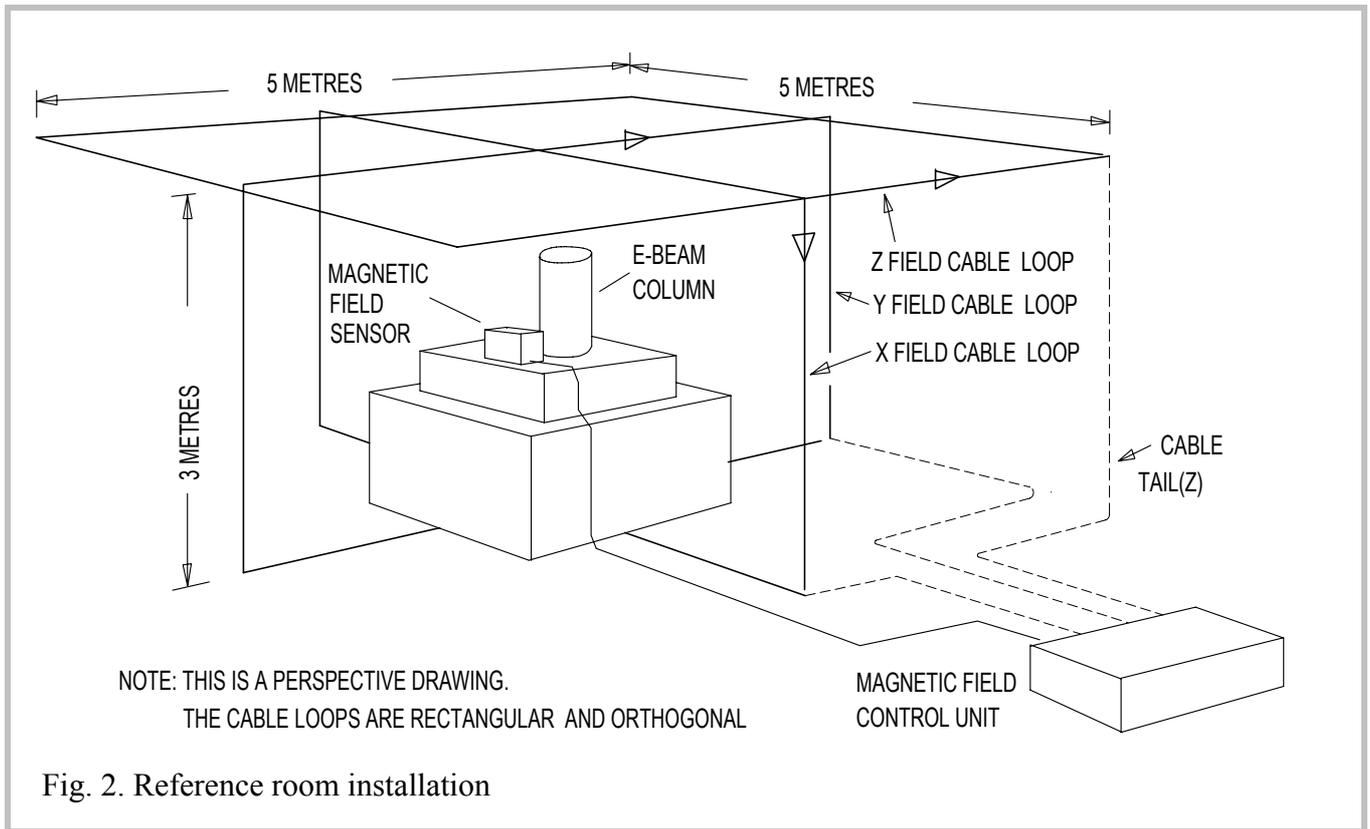

Fig. 2. Reference room installation
To specify the SC20 performance more rigorously, we use a reference cable installation geometry. This is shown in Fig. 2. The electron beam column is centred in the 3m x 5m X and Y loops (which cross over above and below the column) and the 5m x 5m Z loop. The SC20 specifications on page 5 apply to this reference room installation.
Dynamic range (X & Y)	80 mG (8 μ T) pk-pk (installation Fig. 2)
Dynamic range (Z)	60 mG (6 μ T) pk-pk (installation Fig. 2)
Dynamic range (X & Y)	\pm 40 mG (\pm 4 μ T) incremental, (installation Fig. 2)
Dynamic range (Z)	\pm 30 mG (\pm 3 μ T) incremental, (installation Fig. 2)